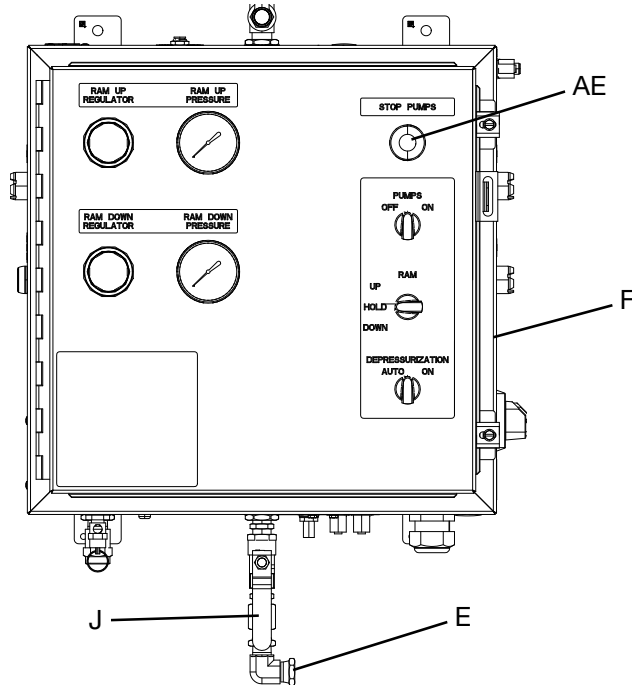

FIG. 23
1. Open the Main Air Shutoff Valve (J) to the Supply Unit (see FIG. 23).